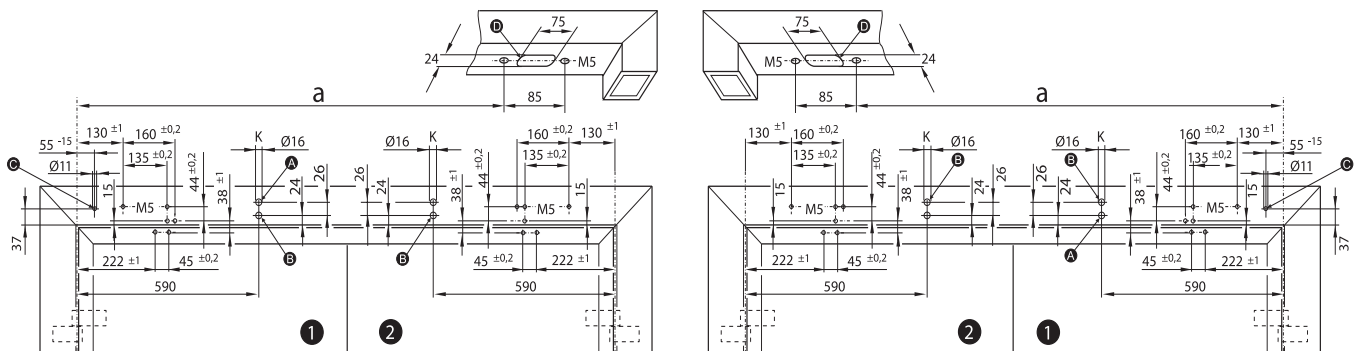
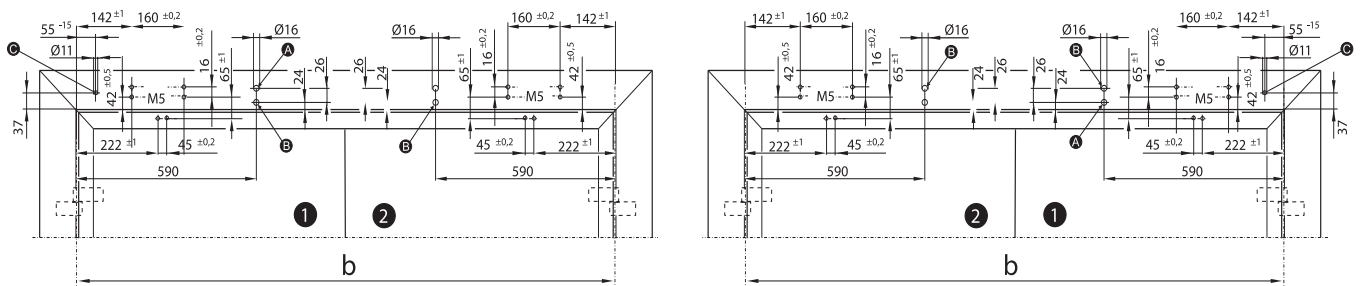

Fig.: 6.1.1.
Fig.: 6.1.2.
**TS 4000 R IS and TS 4000 R Zweitgerät with linkage** - for direct fixing (Fig.: 6.1.1) or fixing with a mounting plate (Fig. 6.1.2).